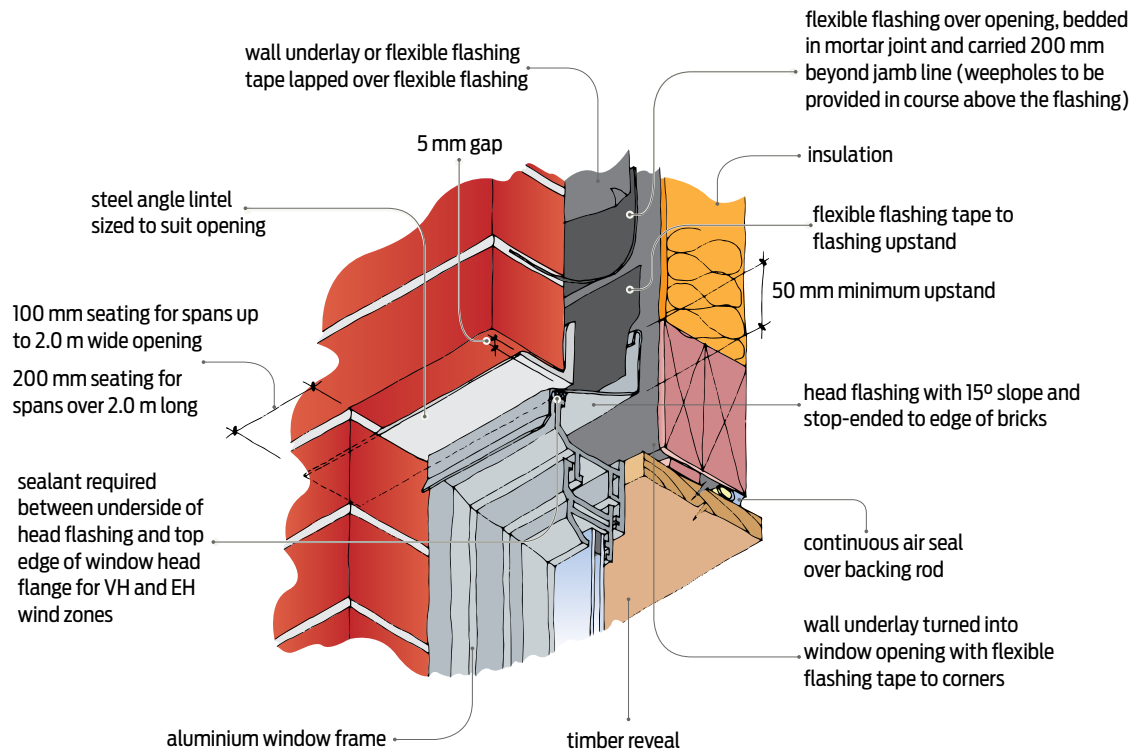

Figure 52 Aluminium window installation – head detail.
- Flexible head flashing across the opening, bedded into the mortar joint above the opening and extended 200 mm beyond the jamb line on both sides. A layer of wall underlay or flexible flashing tape must be lapped over the flexible flashing (see Figures 52 and 53).
For very high (VH) and extra high (EH) wind zones, sealant must be applied between the underside of the head flashing and the top edge of the window head flange (see Figure 52).